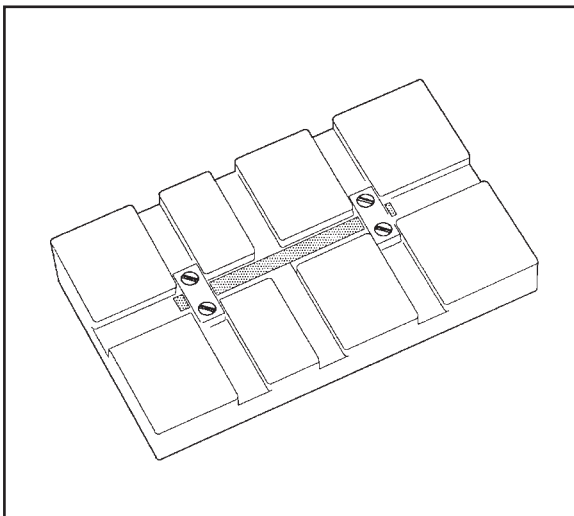

Figure 4.6
6. Tighten the screws so that the sample is flat in the block and is positioned perpendicular to the clamps (see Figure 4.6).